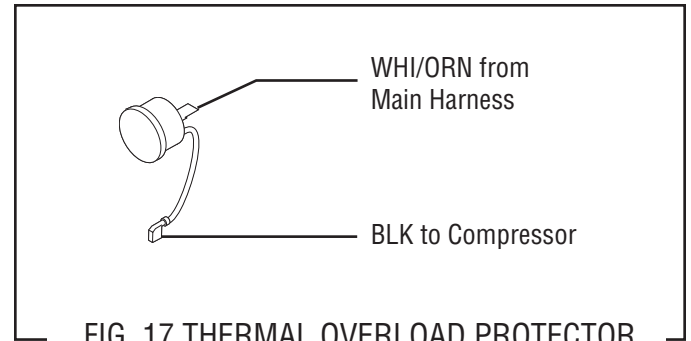

FIG. 17 THERMAL OVERLOAD PROTECTOR
1. Remove terminal cover retainer (5) and terminal cover (4).
4. Remove overload protector retainer (3) and thermal overload protector (2) as an assembly.
5. Remove retainer (3) from overload protector (2) and discard overload protector.
6. Install retainer (3) on new overload protector (2).
7. Install retainer (3) and overload protector (2) on the compressor terminal bracket.
8. Refer to Fig. 17 and reconnect the thermal overload protector wires.
9. Reinstall terminal cover (4) and cover retainer (5).